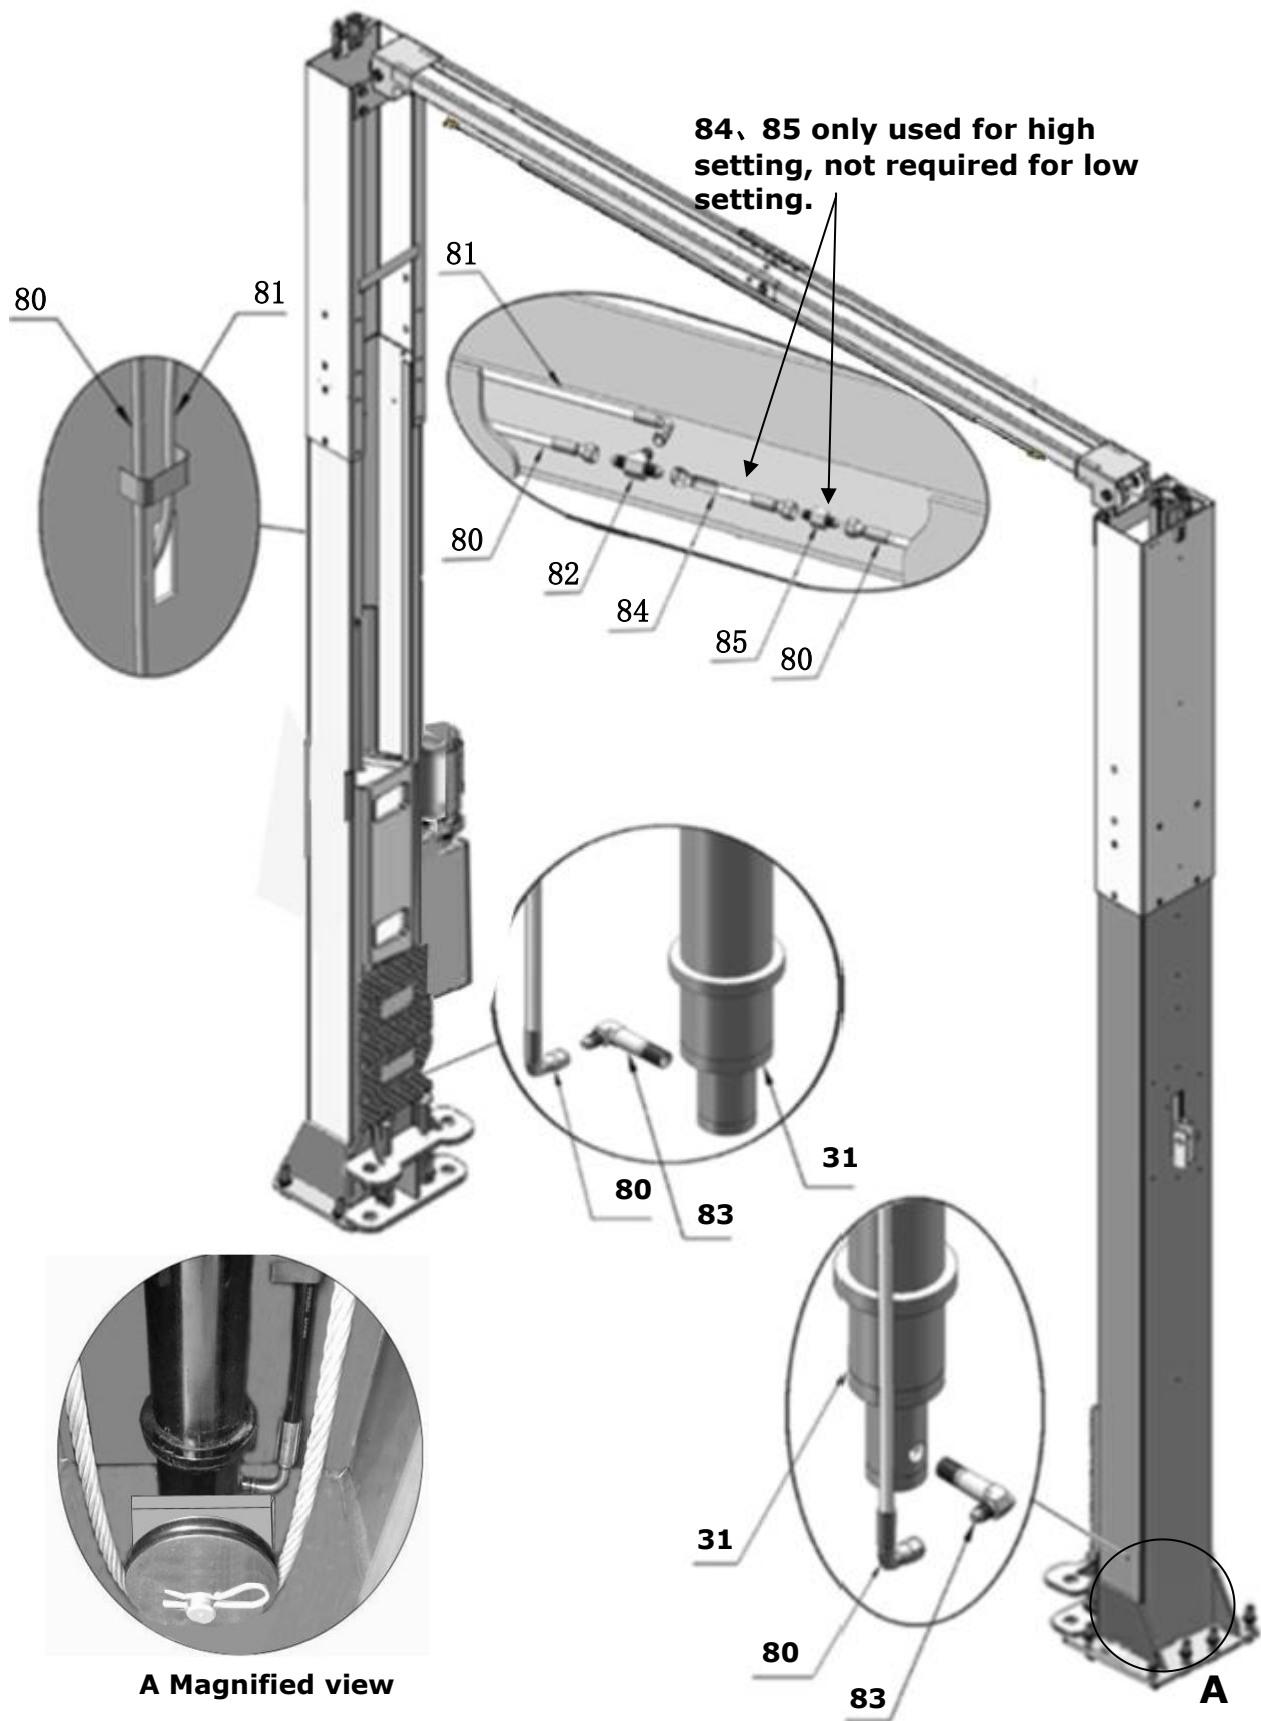

Fig.33
2. OHX-10H oil-line connecting diagram (See Fig. 33).